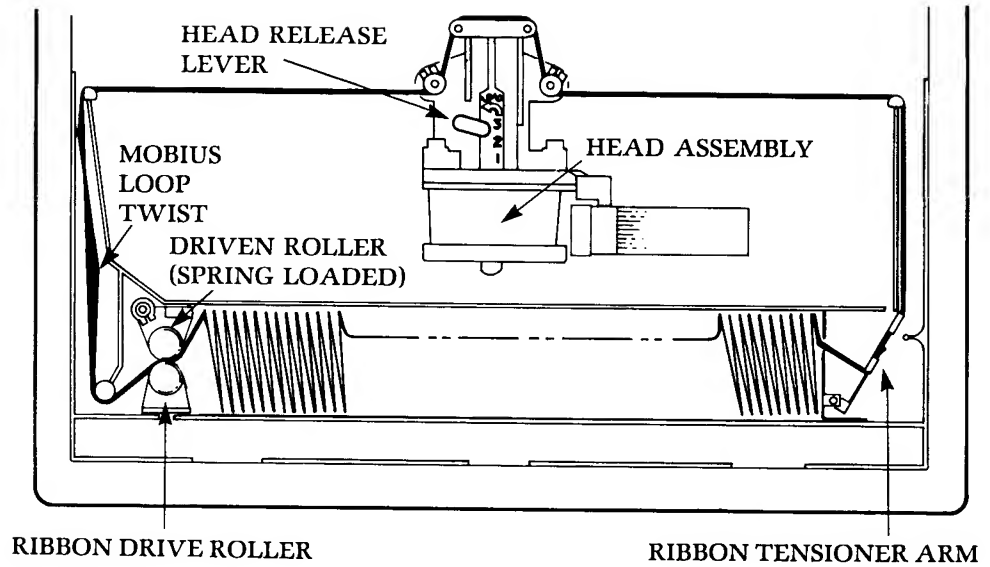

Figure 4. HEAD RELEASE LEVER and Ribbon Threading Diagram
3. Set the **HEAD RELEASE LEVER** (see Figure 4) to the **LOAD** position to back the print head away from the platen.
15. Check the ribbon threading against the threading diagram (Figure 4). Take up slack by turning the **RIBBON DRIVE ROLLER** clockwise.
9. Check the ribbon threading (see ribbon threading diagram, Figure 4). Take up slack in the ribbon by moving the **RIBBON DRIVE ROLLER** clockwise.
9. Check the ribbon threading against the threading diagram (Figure 4). Take up slack in the ribbon by turning the **RIBBON DRIVE ROLLER** clockwise.
- Printer ribbon properly threaded? (See Ribbon Threading Diagram, Figure 4.)